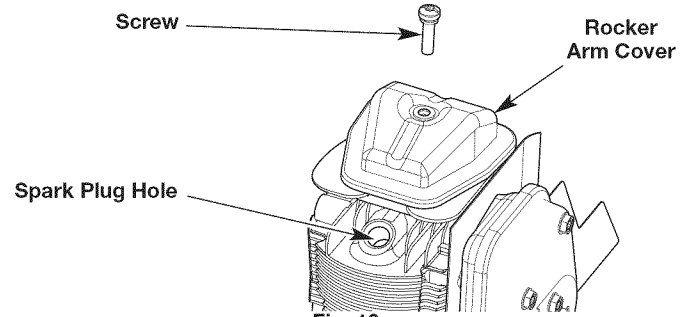
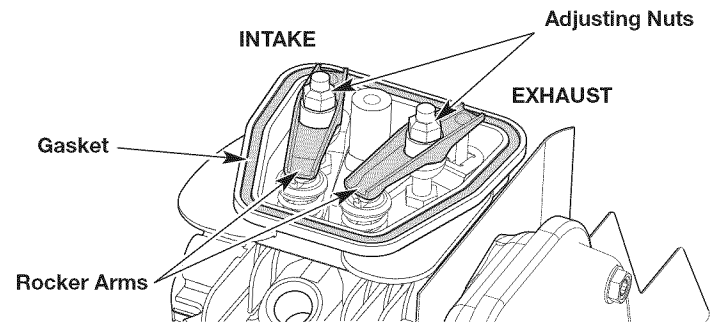

Fig. 19
Fig. 20
6. Remove the screw from the rocker arm cover with a flat-head screwdriver or T-25 Torx screwdriver (Fig. 19). Remove the rocker arm cover and gasket (Fig. 20).
7. Look into the spark plug hole (Fig. 19) and pull the starter rope slowly to move the piston. Make sure: